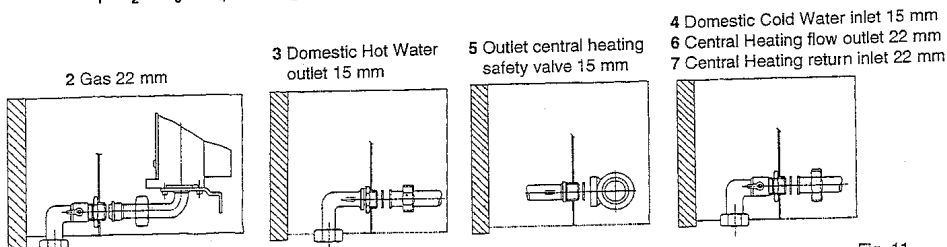

Fig. 11
- 2.6 With the exception of the connection to the pressure relief valve, make all the water and gas connections to the jig bracket valves. Fully tighten (fig. 11). Water connections can be made with compression or capillary fittings (before the gas inlet to the boiler there must be at least 100 mm of straight before any bends).
Open the central heating flow and return cocks (fig. 11).
Close all hot water draw off points. Open main cold water stop cock and ensure the cold water inlet cock is open at the boiler jig bracket (fig. 11). Slowly open each hot tap in turn until clean water, free from air pockets, is seen.